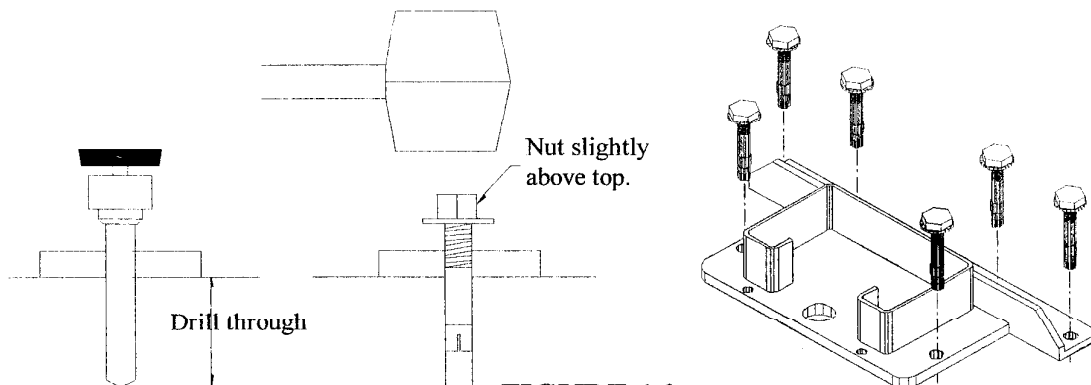

FIGURE 16
10. Assemble the washer and nut onto the anchor bolt. Thread the nut approximately 4/5's of the way onto the anchor bolt where the top of the nut is just above the top of the bolt. Using a hammer on the nut, *carefully* tap the anchor bolt into the concrete. DO NOT DAMAGE THE NUT OR THREADS. Figure 16 on previous page.